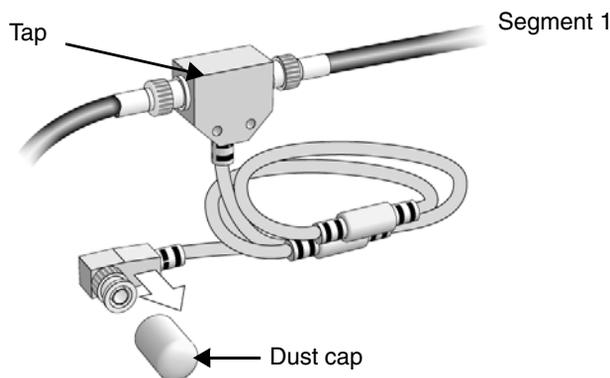

Figure 74. Remove the dust cap from the connector for segment 1.
1. Remove (and save) the dust cap located on the straight or right-angle connector of the designated tap on the first segment (segment 1), see Figure 74.